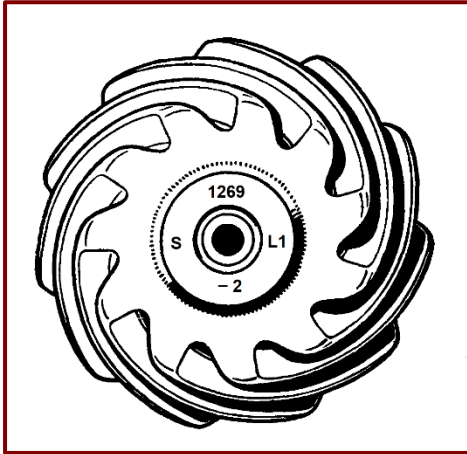
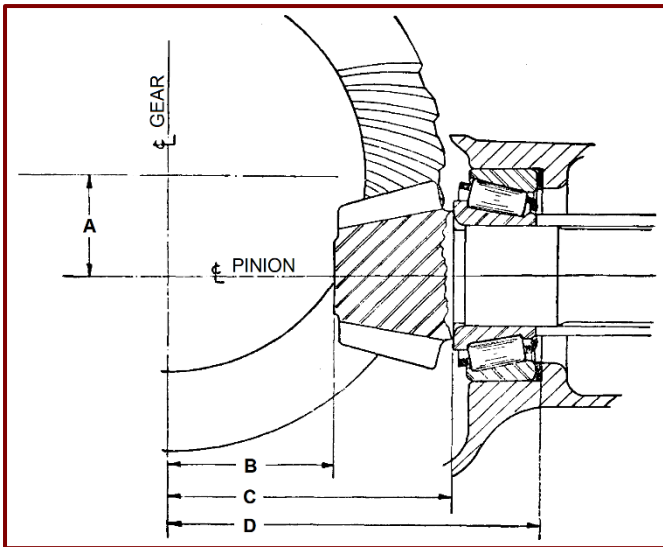

Figure 52. Pinion Setting Marks
Figure 53. Pinion Setting.
The correct pinion setting is marked on the ground end of the pinion as shown in Figure 52. The matched assembly serial number at the top is also marked on the drive gear, and care should be taken to keep similarly marked gears and pinions in their matched sets, as each pair is lapped together at the factory. The letter on the left is a production code letter and has no significance relative to assembly or servicing of an axle. The letter and figure on the right refer to the tolerance on offset or pinion drop (dimension 'A' Figure 53), which is stamped, on the cover facing of the gear carrier housing. When ordering spares, specify offset required if the best performance is to be obtained. Thus, L.1 carrier requires L.1 gears, or H.2 carrier requires H.2 gears.
Legend (Figure 53)
The number at the bottom gives the cone setting distance of the pinion and may be Zero (0), Plus (+) or Minus (–). When correctly adjusted, a pinion marked Zero will be at the zero cone setting distance (dimension 'B' Figure 53) from the centre line of the gear to the face on the small end of the pinion; a pinion marked Plus Two